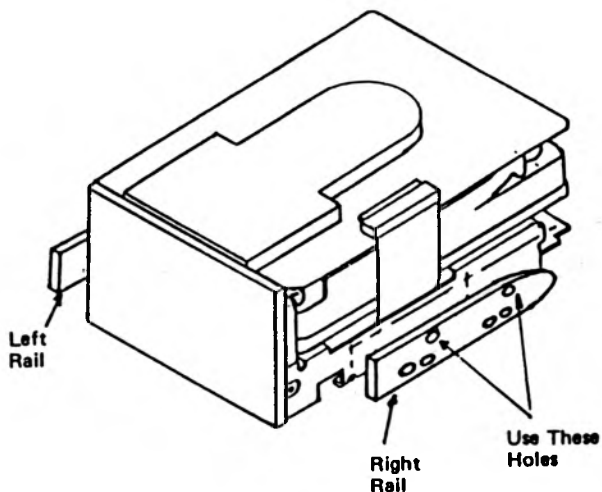

Figure 2
2. Take one of the packages, that are attached to the PC, and install the guide rails to the hard disk drive as shown in Figure 2. Two sets of screws are provided in the package, for this drive the correct screws are black in color. Make sure to use the holes in the guide rails that are marked "Fix".